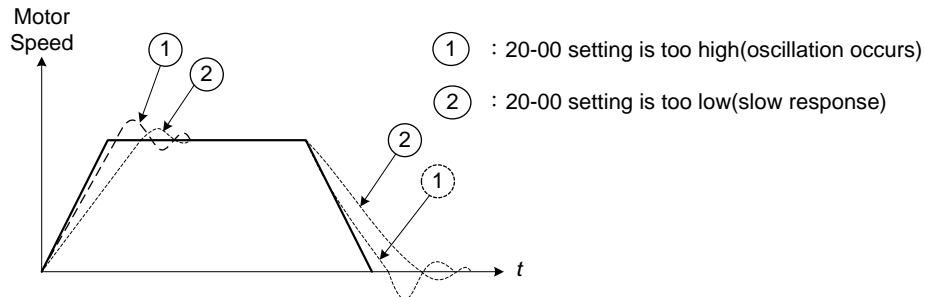

Figure 4.4.113 System response of ASR proportion gain
2. Integral control enables the motor speed to reach its target speed as soon as possible, but it may result in over or undershoot, as shown in Figure 4.4.113 & 4.4.114.
Use parameter 20-00 and 20-02 to adjust the speed response for each cycle. Tuning the settings of 20-00, 20-02 can increase system response, but may cause system instability. See figure 4.4.113.